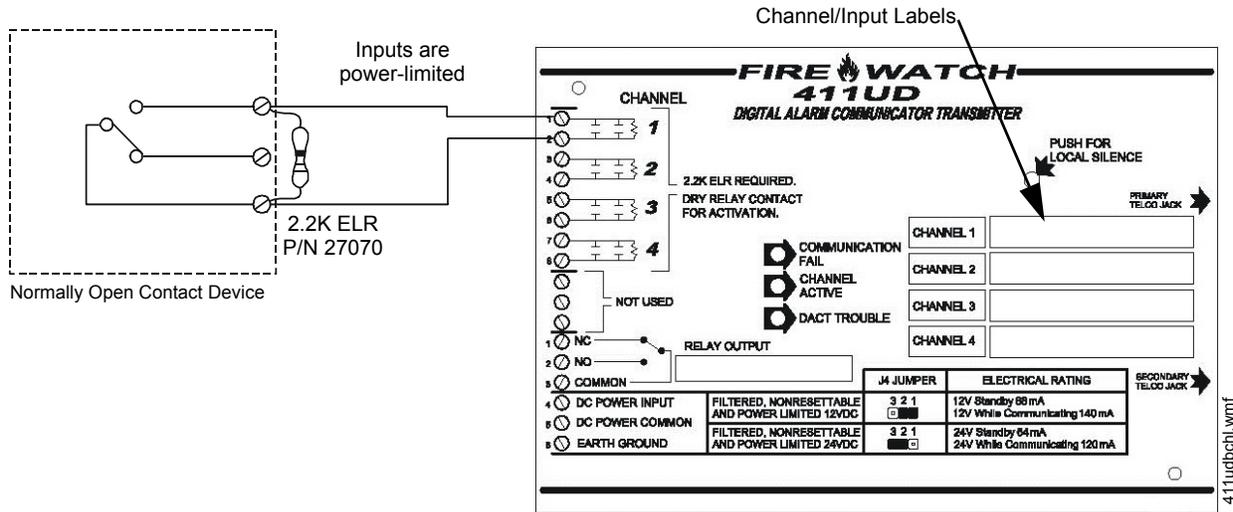

Figure 2.2 Style B Channel Connections
The 411/411UD digital communicator has three (411) or four (411UD) channel inputs. Each channel is a Style B (Class B) Initiating Device Circuit designed to accept any normally-open contact device. Since channels do not latch, a reset switch is not provided by the 411/411UD. The communicator transmissions to a central station track the state of the inputs. Refer to Figure 2.2, “Style B Channel Connections” on page 18 for information on wiring Style B circuits.